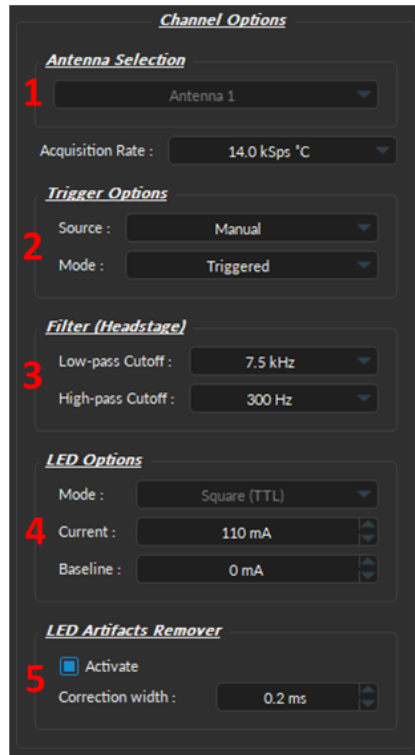

Figure 9.14: Antenna Channel Options
The **Channel Options** (Fig. 9.14) of the *Antenna Channel Configuration* window sets the trigger and recording parameters, as follows:
1. The **Antenna selection** (Fig. 9.14, 1) box shows the currently selected antenna.
2. The **Trigger options** (Fig. 9.14, 2) box allows the selection of trigger parameters for data acquisition.
3. The **Filter (Headstage)** (Fig. 9.14, 3) filters define the high and low-pass frequency cutoff for electrical signal received by the headstage.
- The **Low-pass Cutoff** (Fig. 9.14, 3) is used to attenuate the noise and smooth the waveform of the spikes. The cut-off value can be set between (1-500Hz), depending on the need of the experiment.
- The **High-pass Cutoff** (Fig. 9.14, 3) is used filter the multi-unit activity that occurs from the average / synchronized spiking of a small population of neurons in the vicinity of the electrodes. It can also removed DC noise. The cut-off value can be set between 0.1-500Hz.
4. The **LED options** (Fig. 9.14, 4) are all parameters used to control the light source of the cannula connected to the *Fi-Wi headstage*, such as:
- The **Mode** (Fig. 9.14, 4) allows the selection of the pulse sequence mode.
- The **Maximum current** (Fig. 9.14, 4) defines the current sent to the cannula LED. For proper function of the cannula, the current should always be greater than 10 mA.
- The **Baseline** (Fig. 9.14, 4) leaves a small offset to the current sent to the LED. It is recommended to use a small offset, as a complete shut-down of the LED will induce a spike in the electrical acquisition signal.
- Check the **Active** box (Fig. 9.14, 5);
- Specify the size of the **Correction width** (Fig. 9.14). The minimum value is **0.1 ms**. And while the maximum value can reach 1 second, it is important to note that the larger the **Correction widths**, the more likely true spikes are removed from the signal. Thus, the value must be selected carefully, taking into account this trade-off.